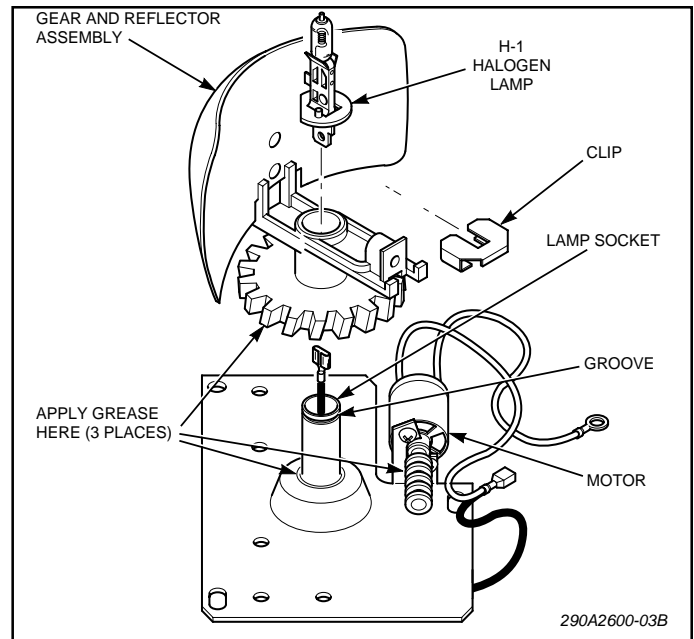

Figure 8.
All gears should be greased at least twice a year. Use medium consistency Dow Corning DC33 or equivalent type grease. Proceed as follows (see figure 8):
2. Lift-off reflector and worm gear. Lubricate with grease as shown in figure 8.